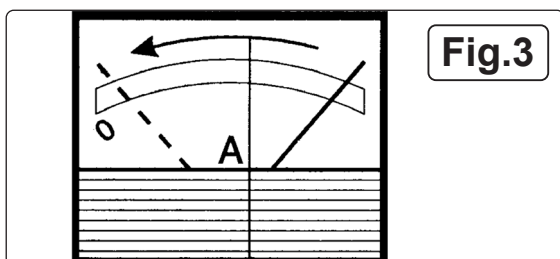

Fig.3
- 4.4.1. Check the current delivery to the battery by reading the ammeter, see fig.3, on the front of the battery charger. Initially, there will be a high rate of charge which will slowly decrease according to the capacity and condition of the battery.